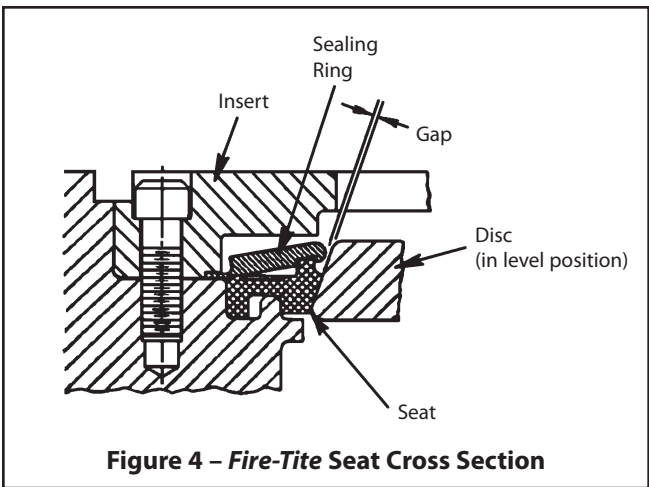

Figure 4 – Fire-Tite Seat Cross Section
9. Replace the insert (2) and insert screws (21). Tighten the screws uniformly in a sequence such as shown in (Figure 3), to a torque value of 17 – 25 IN•LBS (1.9 – 2.8 N•m) On *Fire-Tite* valves, check the gap between the sealing ring and the disc using feeler gauges. The gap must not vary more than .008" (.2 mm) when checked at six spots equally spaced on the disc (See Figure 4). **Note:** After installation of a new seat, torque may be higher for a few cycles.